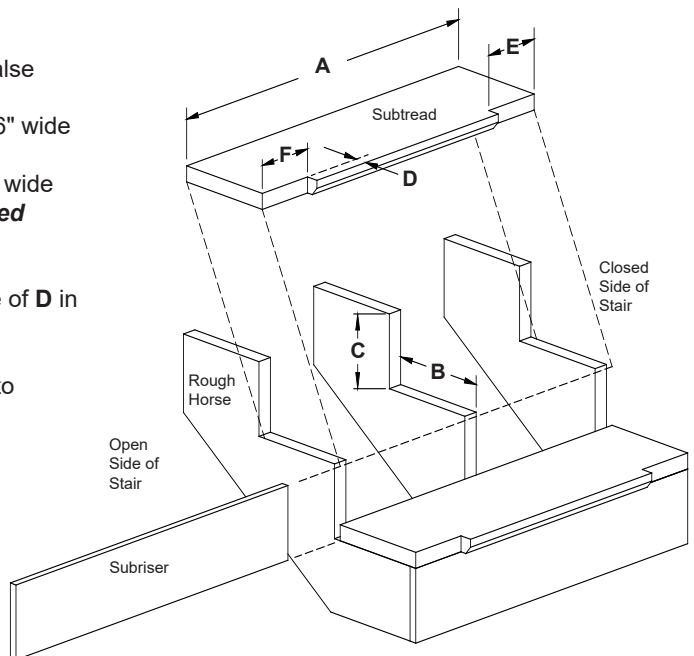
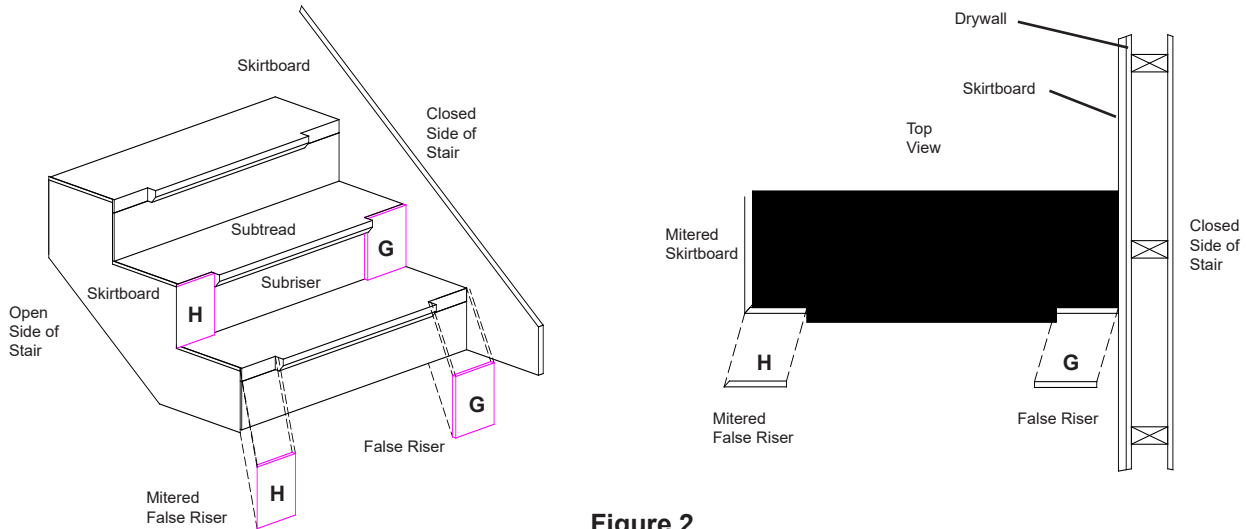

Figure 1
Figure 2
1. Lay out the three rough horses to the required rise and run (C and B respectively). Accuracy is important for ease of fitting the false treads and risers later. (See Figure 1.)
2. Allowing space against the stud wall for drywall and a finished skirtboard, space the rough horses equally and secure the top and bottom into place. (See Figure 1 and Figure 2 page 2.)
3. Cut the subriser to the overall width of the rough stairs and install. (See Figure 1.)
4. Using Figure 1 and the steps below, prepare the subtreads.
If using 2x12's for the subtreads, chamfer the bottom edge of D in Figure 1.
5. Install the finished skirtboard on the closed side of the stair. (See Figure 2 page 2, if applicable.)
6. When cutting out the open side finished skirtboard, miter cut each rise at 45° (See Figure 2 page 2.) to avoid exposing end grain on the false riser. Install the finished skirtboard. (See Figure 2 page 2, if applicable.)
1. Fit and install the false risers on the closed side of the stair **G** using glue and finish nails. (See Figure 2.)
2. Cut a 45° miter on all false risers for the open side of the stair **H**. Fit and install the risers on the open side of the stair **H** using glue and finish nails. (See Figure 2.)
4. Install the risers and treads opposite the false starting step. (See Figure 2, 3, and 5c.)